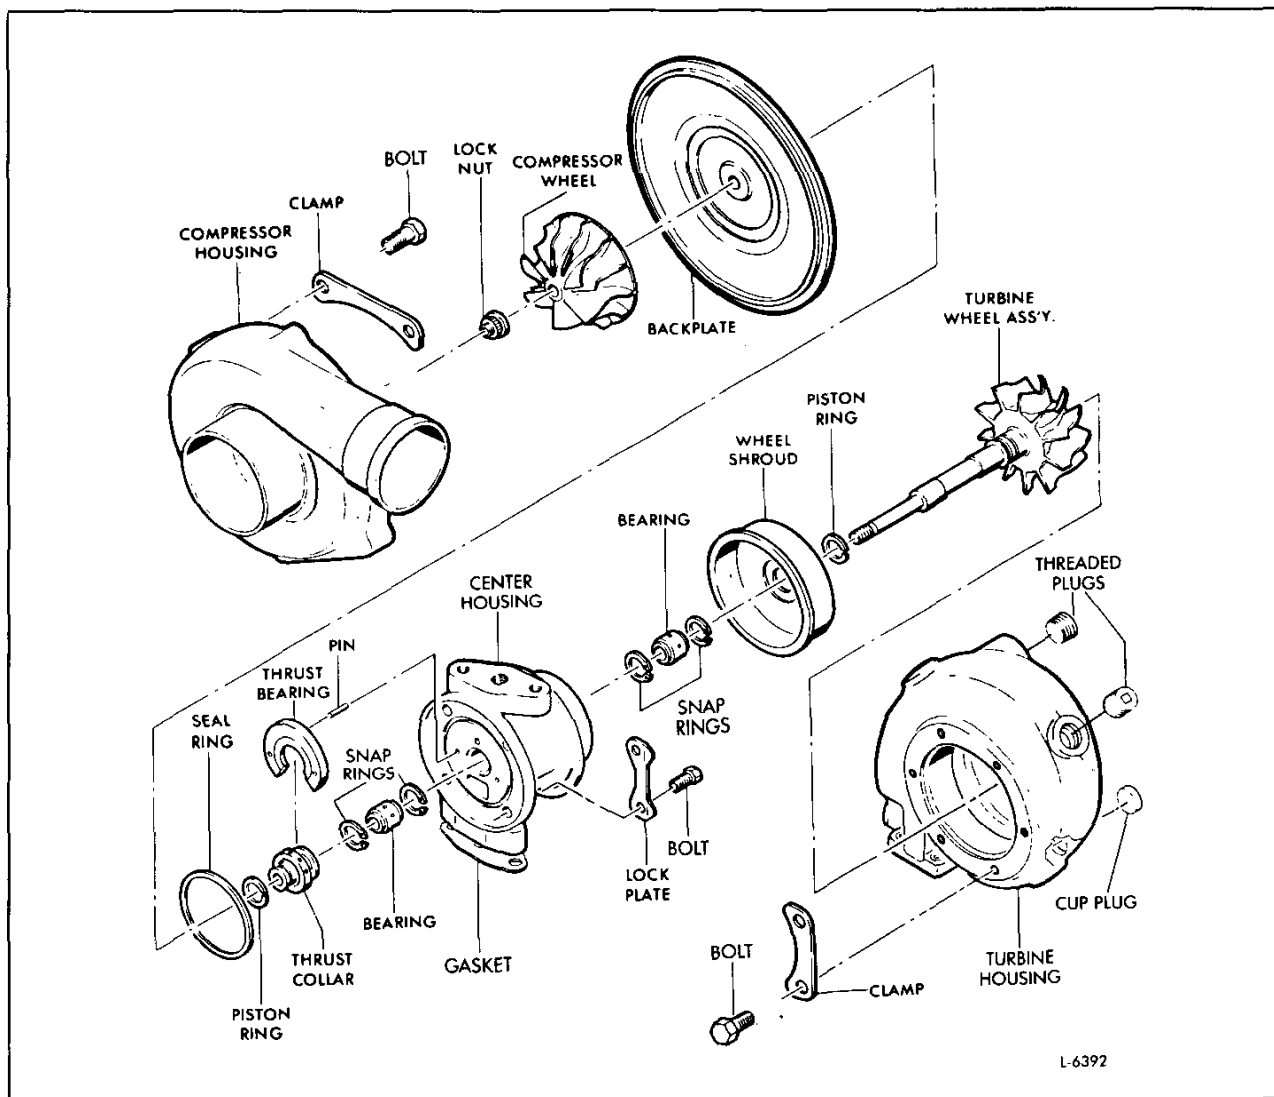

Fig. 6 - Model TW4103 Turbocharger and Relative Location of Parts
1. Refer to Fig. 6 and remove the bolts and clamps securing the compressor and turbine housings to the center section.
Refer to Fig. 6 for parts orientation and proceed as follows: